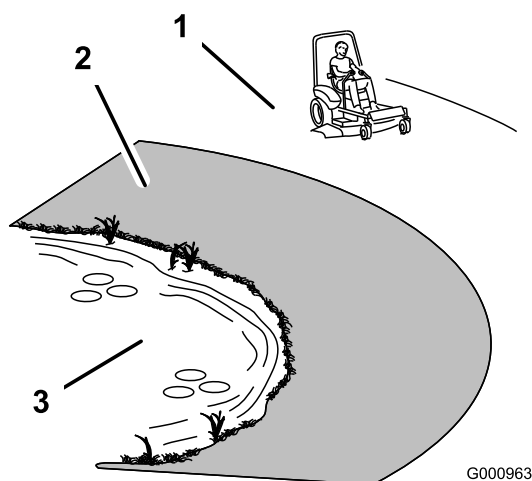

Figure 4
- Use a walk behind mower and/or a hand trimmer near drop-offs, ditches, steep banks or water. (Figure 4).